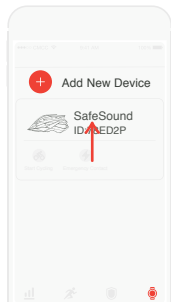

Fig. 10.
- To connect your SafeSound helmet, launch the COROS App. After a few seconds, the app will automatically detect your helmet and establish connection. (see Fig. 10)